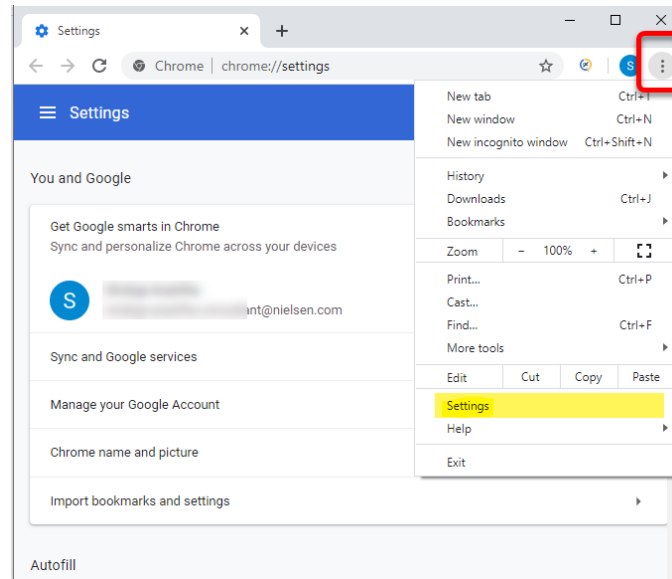

Figure 71: Open Browser Settings
1. In **Chrome**, click the three dots in the upper-right corner of the browser window, and select **Settings** (Figure 71).